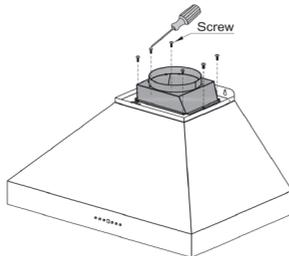

Figure 5.
7. Install the air outlet adapter over the hood with the provided screws. *Figure 5.*